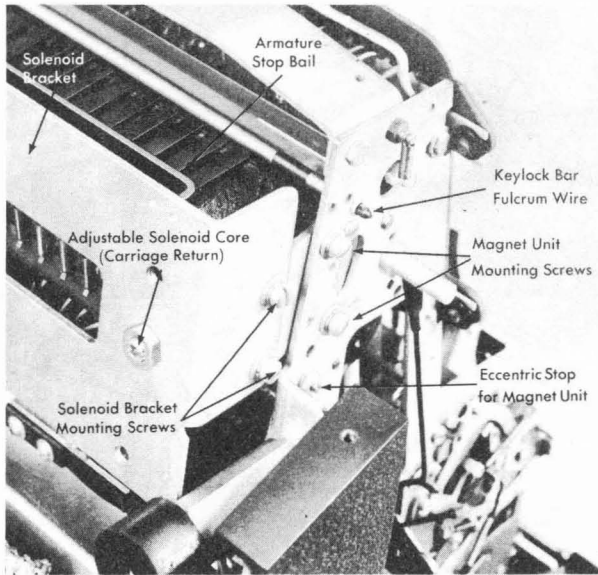

Figure 80. Magnet Unit Removal
2. Remove the two screws on each side that fasten the solenoid mounting bracket to the magnet-unit bracket (Figure 80). Dropping the solenoid bracket permits access to the solenoid to be removed.